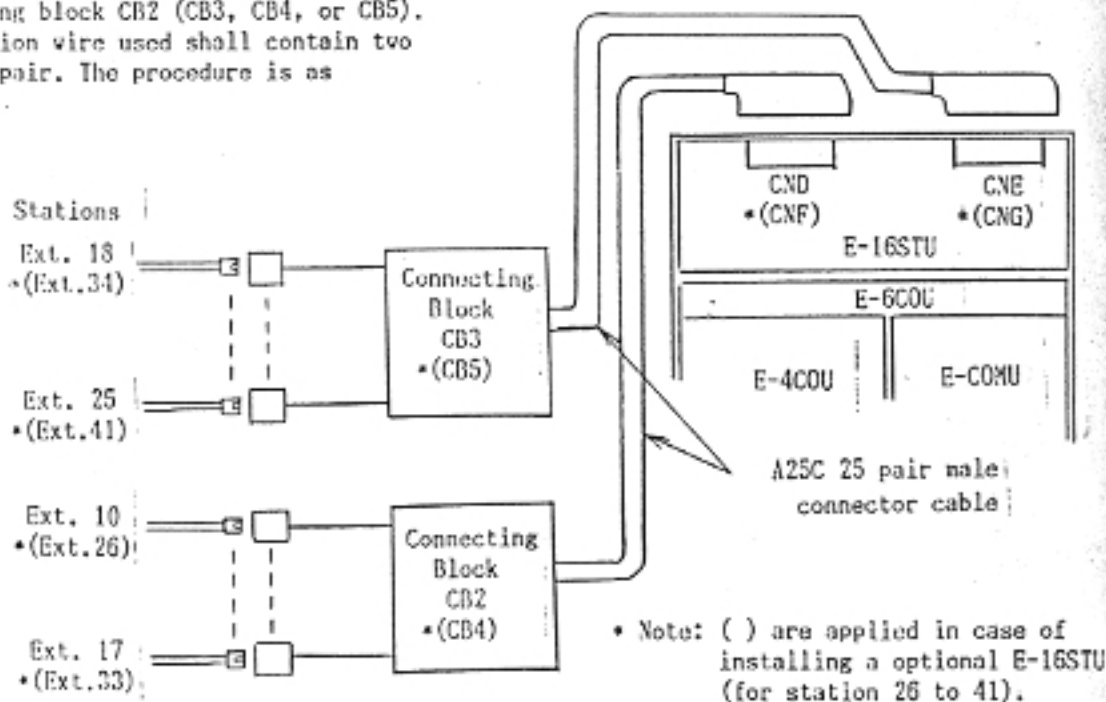

Fig.1-4 Connections for Station Lines
- (1) Run an A25C 25-pair male connectors cable from the KSU to CB2 (CB3, CB4, or CB5)
- (2) Plug the cable into the mating connector in the KSU.
- (3) At connecting block CB2 (CB3, CB4, or CB5), terminate the cable on column A from top to bottom in standard color-code order. Refer to Fig.1-4 and Table C (D, E, or F).
- (1) At the location of station 10, install a four-wire modular jack assembly.
- (2) Run the station wire from the modular jack of station 10 to connecting block CB2 at the MDF.
- (3) Terminate the station wire on the top four terminals of column F of CB2 in the following color-cord order: (1) green, (2) red, (3) black, (4) yellow. Refer to Fig.1-4 and Table C.
- (4) Repeat steps (1) to (3) for station 11, terminating the station wire on the next four rows of connecting block CB2 in accordance with Table C.
- (5) Continue in this fashion for stations 12 to 17, in each case using the next four rows on connecting block CB2.
- (6) Repeat these steps for stations 18 to 25. Refer to Table D.